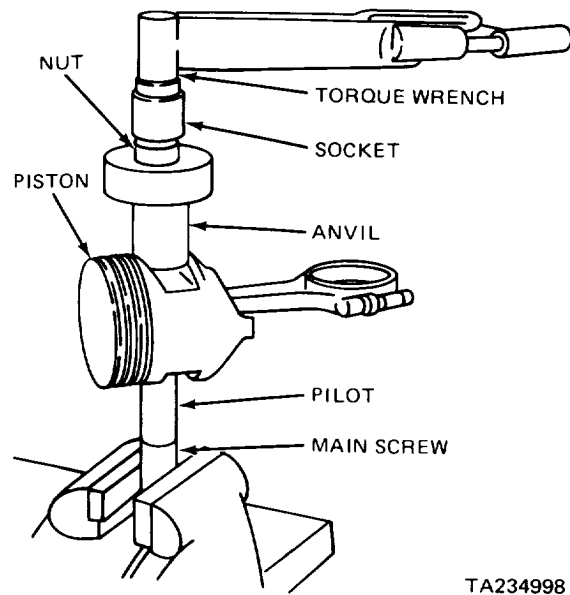

Figure 11-14. Testing Piston Pin Fit in Connecting Rod.
- (10) Press the piston pin in until the pin bottoms on the pilot. This will position the pin in the connecting rod.
- (11) To measure pin fit, remove the tool and arrange tool parts and the piston assembly as shown in figure 11-14.
f. Installing Valve Springs. See figure 11-14 for a disassembled view of the valve assemblies.